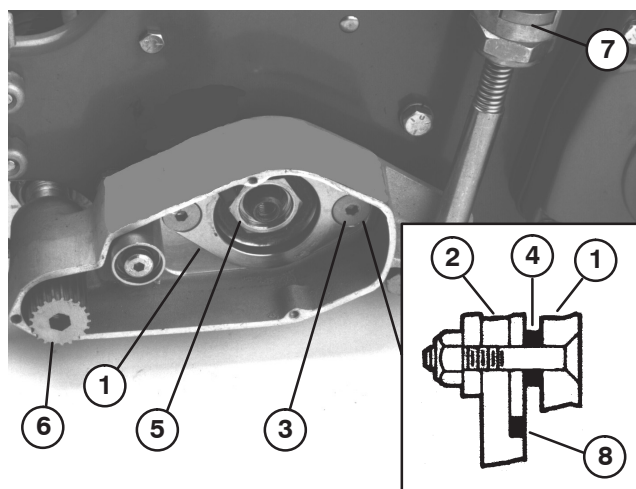

Figure 5
9. Slide one end of the grooming shaft assembly into the bearing support in the groomer housing assembly (Fig. 5).
13. Remove the reel bearing locknut from the reel shaft (Fig. 5). Secure the reel from turning with a wood block.